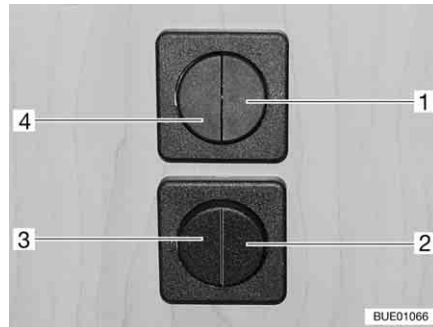

Fig. 60 Light switch
- Seating group lights (Fig. 60,1)
- Entrance lights (Fig. 60,2)
- Awning lights (Fig. 60,3)
- Living area lights (Fig. 60,4)